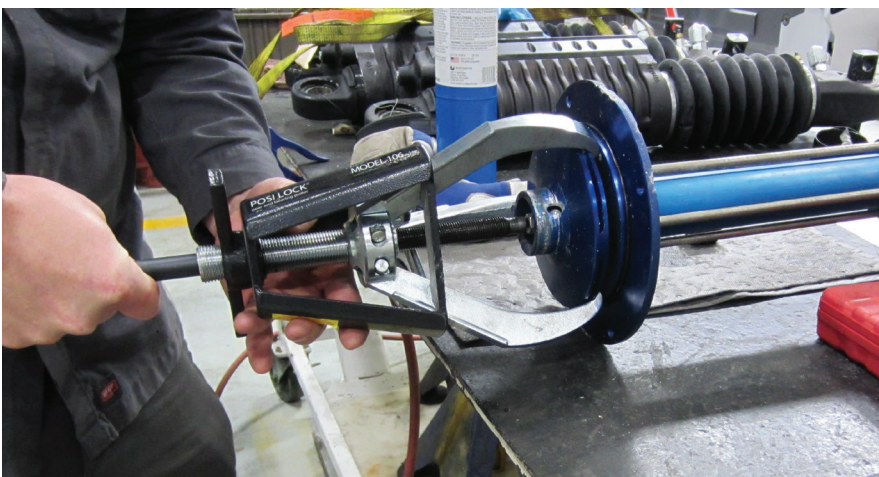

Figure 8
15. Install pulley remover around pump assembly impeller, see Figure 8.